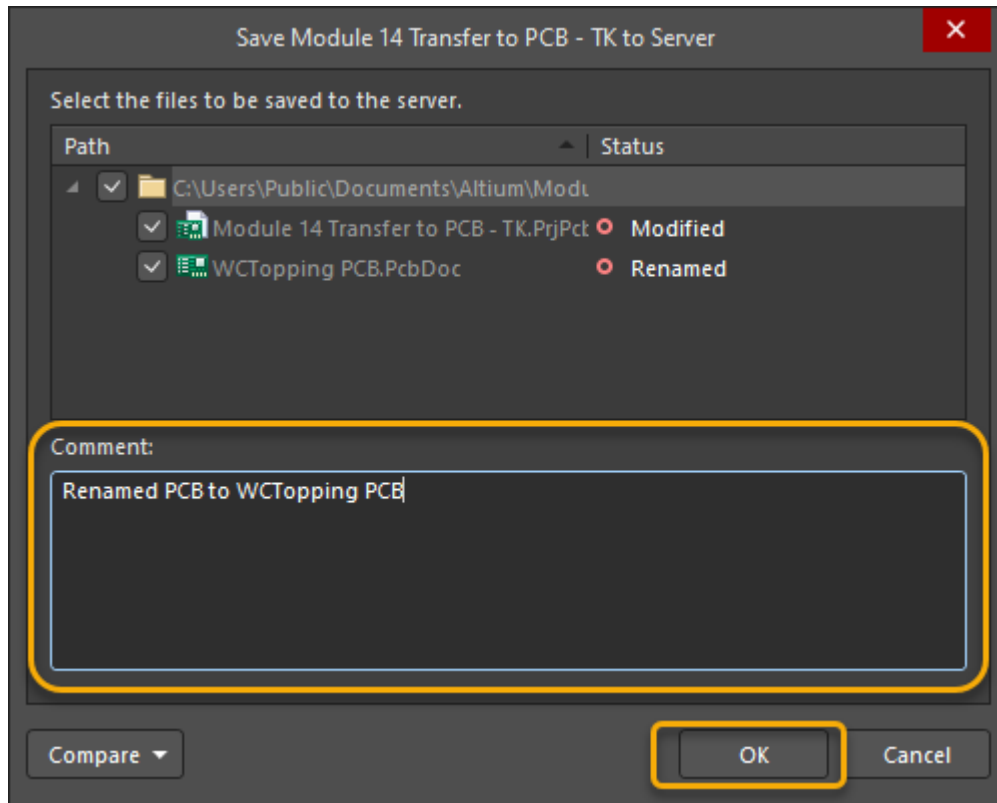

Figure 2. Save to Server
- b) At the pop-up Save dialog add a comment, e.g.: Renamed PCB to WCTopping PCB.PcbDoc, as seen in Figure 2.
- b) At the pop-up save dialog as seen in Figure 2.